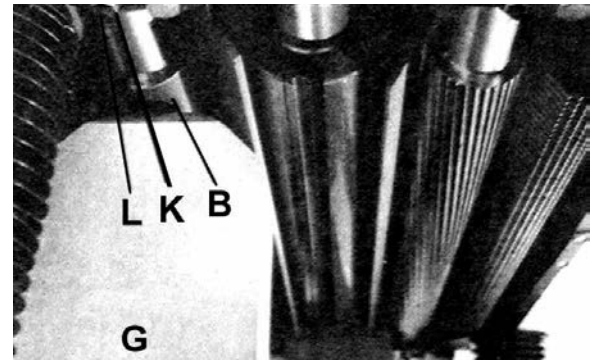

FIGURE 26
4. Move the gauge block (G) under one end of the outfeed roller (B) as shown in Fig.26. The bottom of the outfeed roller should just touch the top of the gauge block. If an adjustment to the outfeed roller is necessary, loosen the lock nut (K) Fig.26 and turn screw (L) until the outfeed roller just touches the gauge block. retighten lock nut (K).